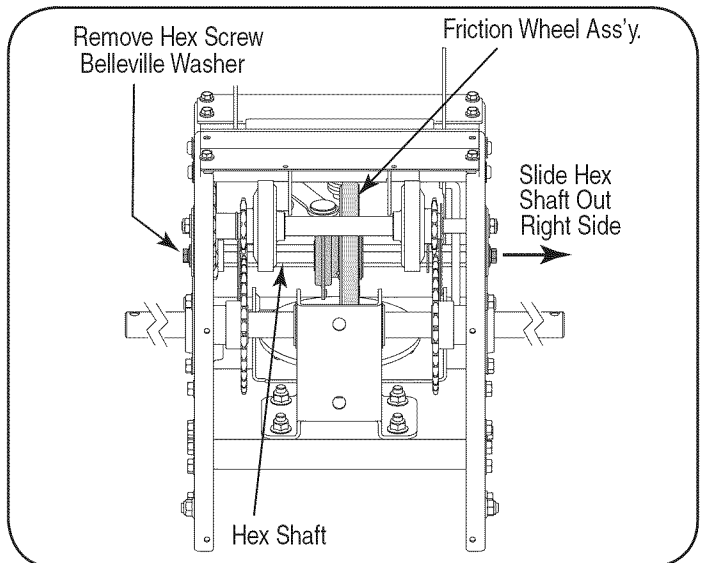

Figure 32
- Using a 3/4" wrench, hold the hex shaft and remove the hex screw and belleville washer and bearing from left side of the frame. Refer to Figure 32.